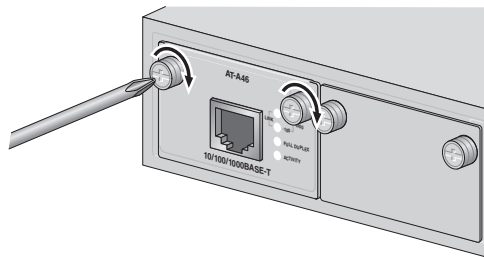

Figure 16. Securing the Module in the Expansion Slot
7. Using a Phillips screwdriver, tighten the captive screws, as shown in Figure 16, to secure the module in the switch.